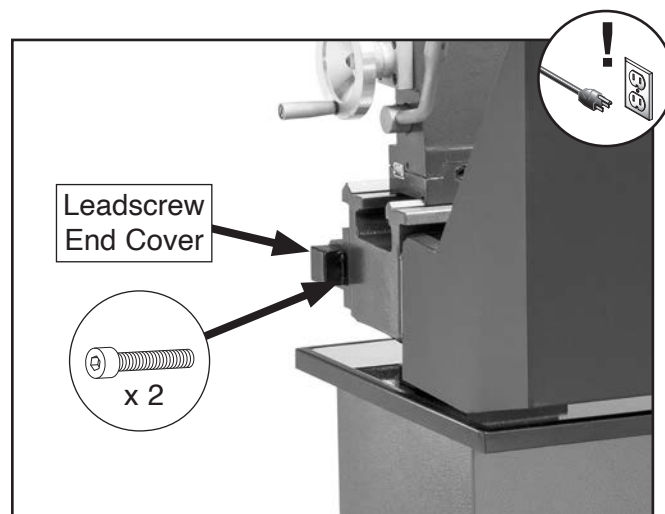

Figure 122. Location of leadscrew end cover and screws.
2. Remove (2) cap screws shown in **Figure 122** to remove leadscrew end cover.